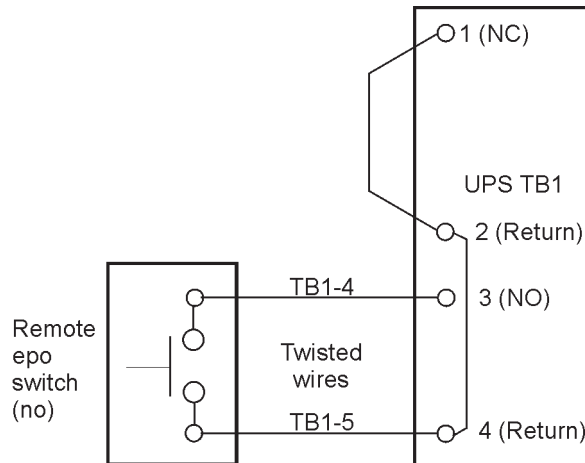

Figure 4-13. Normally-open remote EPO switch wiring
12. Route and connect the wiring as shown in Table 4-2 and Figure 4-13.
6. Install the HotSync CAN Bridge Card into an open X-Slot communication bay on the front of the UPS. See Figure 4-9 on page 44 and Figure 4-13 on page 50 for X-Slot communication bay locations.